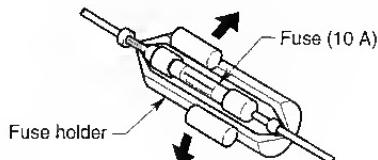

Figure 11
4. To replace the fuse, release the catch on the source unit side, remove the old fuse and insert the new one. (Figure 11)